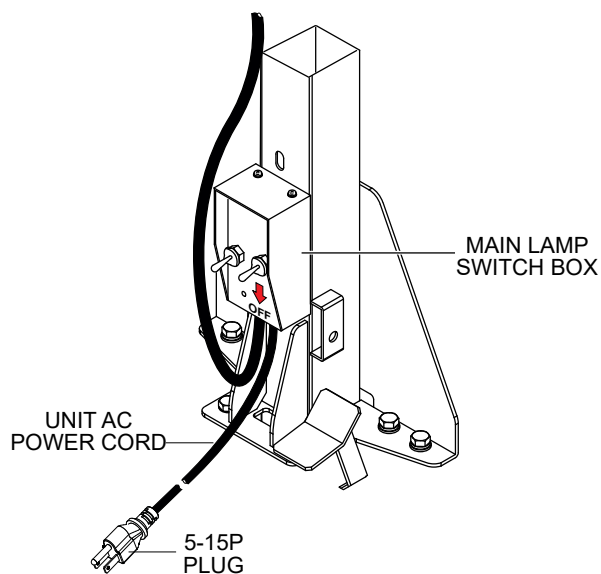

Figure 13. Lamp Switches
1. Make sure both lamp switches (Figure 13) are in the OFF position.